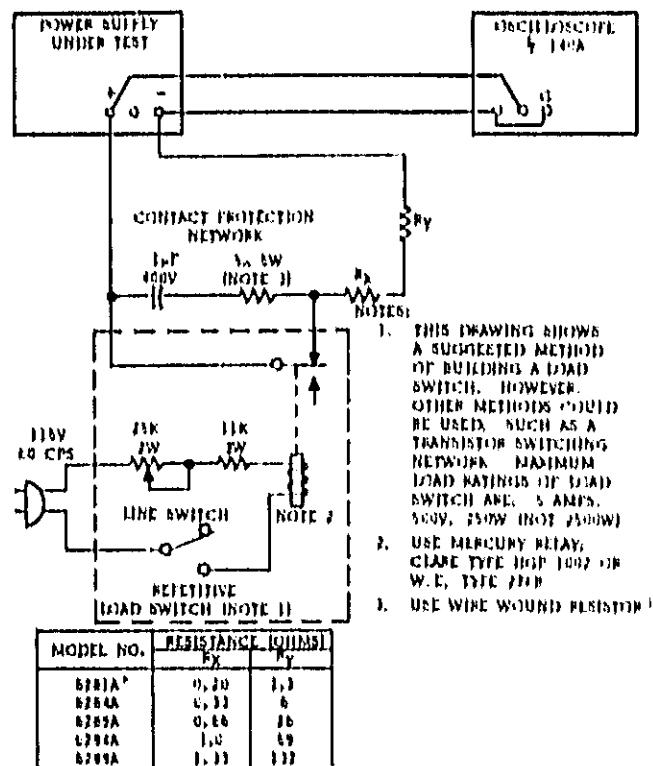

Figure 5-7. Transient Response, Test Setup
a. Connect test setup shown in Figure 5-7,